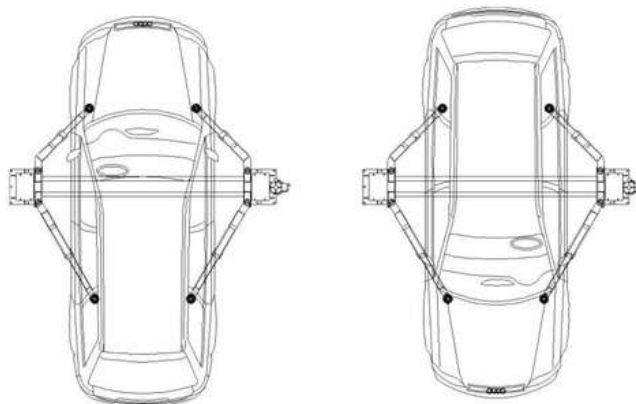

Fig 22
6.1.3-Load vehicle correctly (Fig 22).